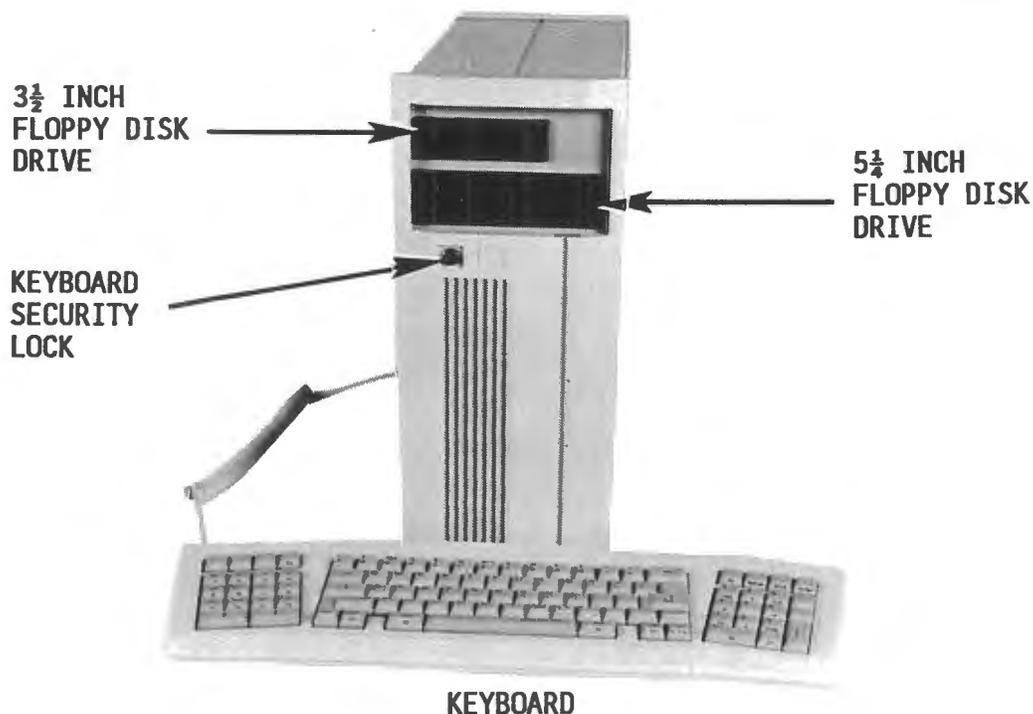

Figure 3 Front View of the 9000
9. Refer to figure 3 and locate the security keyswitch on the front of the 9000 and turn it to the left. This step will allow you to access the system via the keyboard.